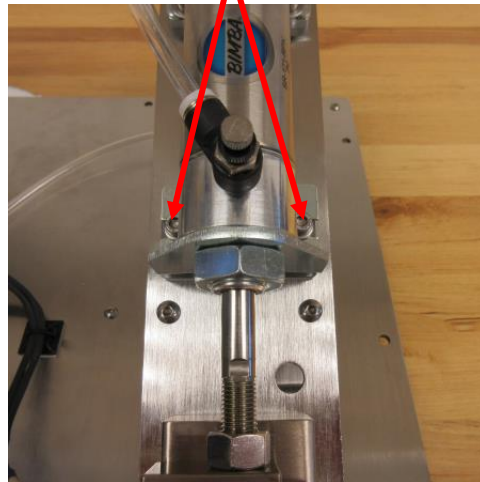

Figure 3.4.6
- Now remove the two 5x20mm screws holding the front cylinder mount bracket using a 4mm hex wrench. *Figure 3.4.6.*